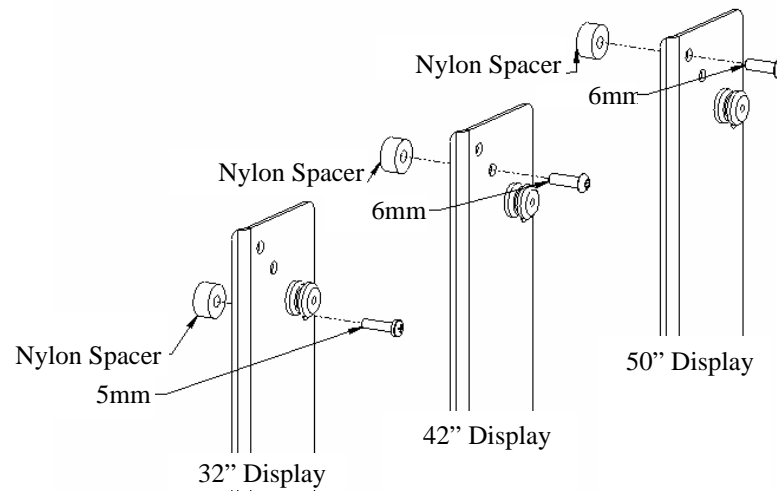
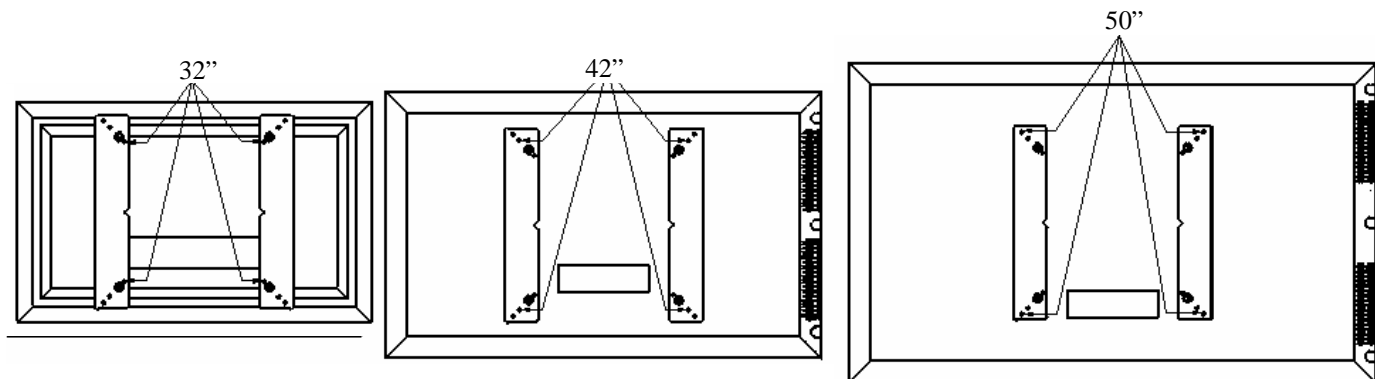

Figure 4. Bracket Hole Location
Figure 5. Bracket Attachment Location
3. Attach mounting brackets to the display using the M5 screws for 32" screen or M6 for the 42" and 50" screens (see Figure 4 and Figure 5).